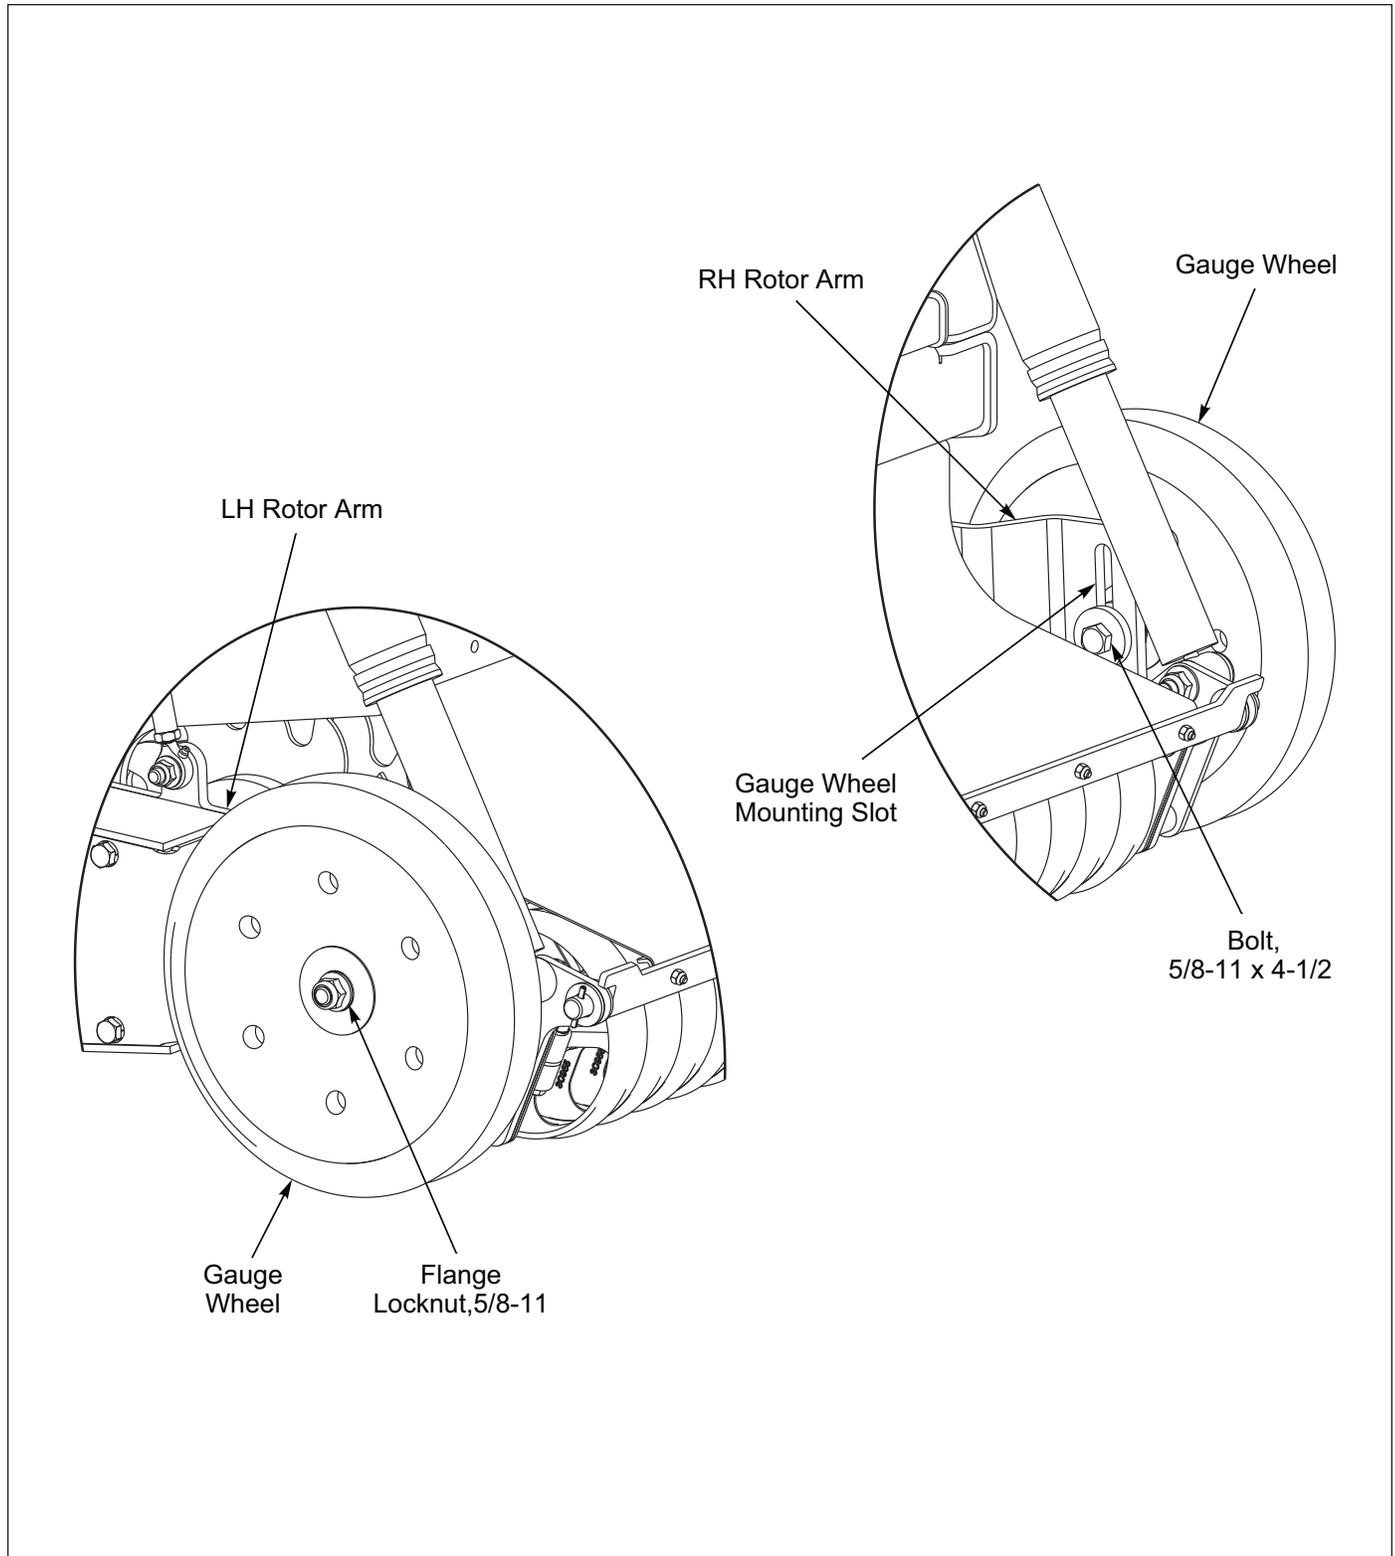

Figure 3-6: Gauge Wheels
1. Adjust Gauge Wheel by loosening the 5/8-11 Flange Nut on the Gauge Wheel Hub. Raise or lower the Gauge Wheel in the Rotor Arm Gauge Wheel Mounting Slot as necessary. **See Figure 3-6.**